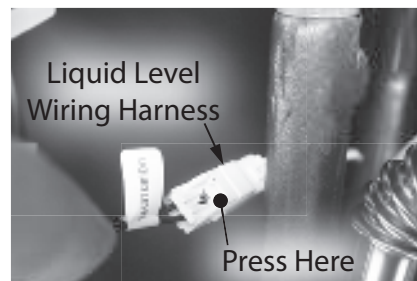

Figure 238 - Liquid level wiring harness location
- 19** Trace the black wires from the condensate trap to the wiring harness marked "LIQUID LEVEL" and disconnect them. See Figure 238.